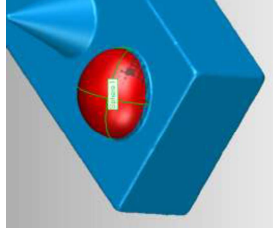

Figure 59
- The feature is created with the selected region. See **Figure 59**.